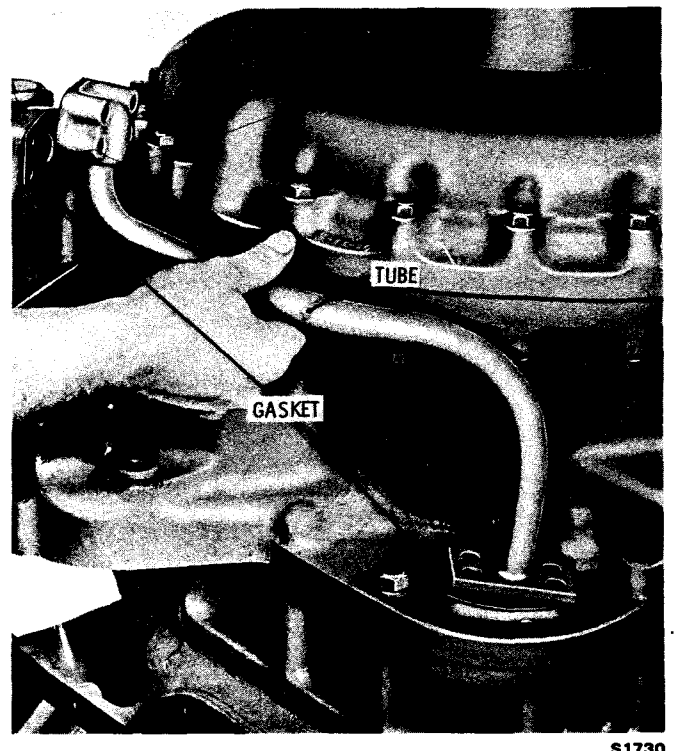

Fig. 7-93. Installing scavenge oil discharge tube
(2) Install two scavenge oil discharge tube gaskets. Install the tube (fig. 7-93) and secure it with four 3/8-16 x 1 3/4-inch bolts and lockwashers at the pump end of the tube, and four 3/8-16 x 1-inch bolts and lockwashers at the other end (refer to items 18 through 26 in B, foldout 7). Tighten the bolts to 26 to 32 pound feet torque.